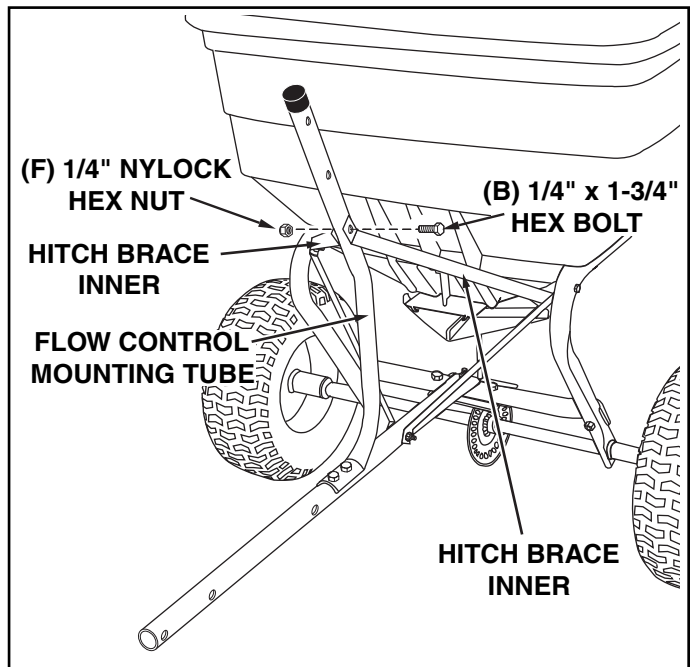

FIGURE 6
14. Assemble the two **INNER** hitch braces to the flow control mounting tube using a 1/4" x 1-3/4" hex bolt (B) and a 1/4" nylock hex nut (F). **DO NOT TIGHTEN YET**. See figure 6.